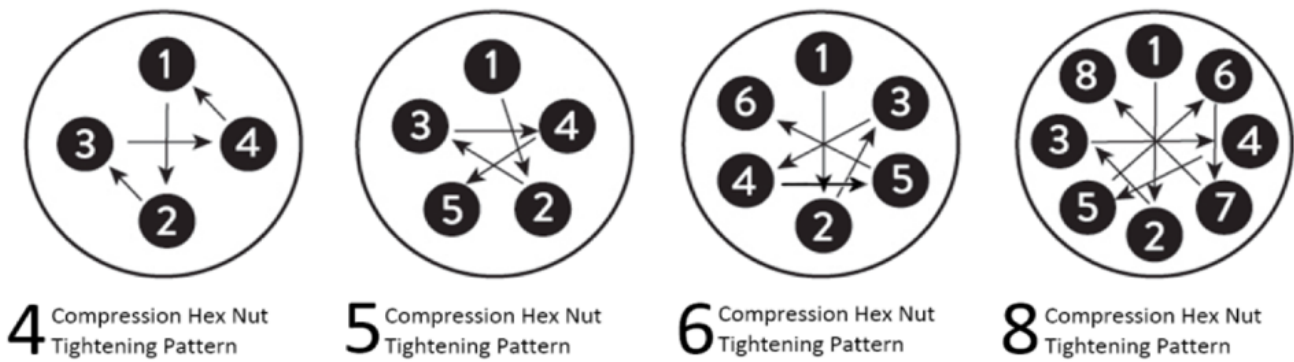

Figure 8: Compression Hex Nut Tightening Pattern Examples
- 6.7. Bleed off air by pumping water into the system while keeping the Vent Port Open, see Figure 8.